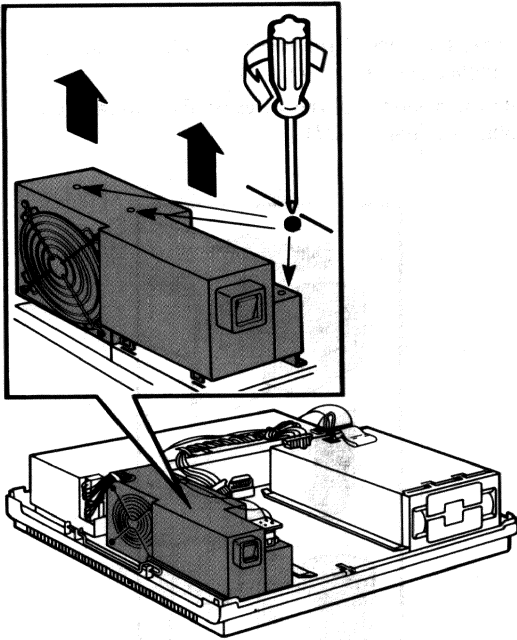

Figure 5-26 Fan Bracket Assembly Removal
4. Remove the three screws on the top of the fan bracket assembly as shown in Figure 5-26.
5. Lift the fan bracket assembly up (Figure 5-26).